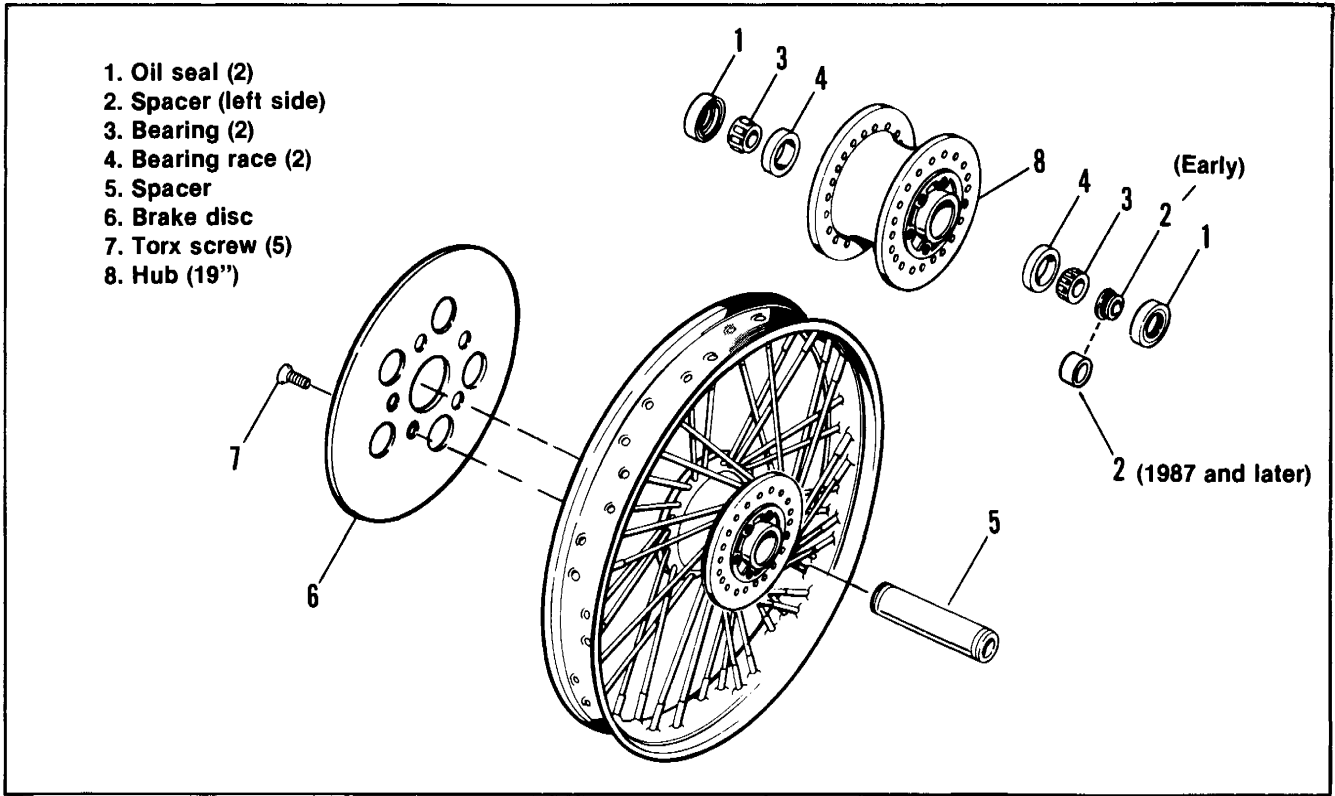

Figure 2-6. Laced Front Wheel — FXR Models
Laced Wheel (Figure 2-6)
1. See Figure 2-6. Place wheel between fork legs with spacer (2) facing to the motorcycle right and brake disc (6) to the left side.